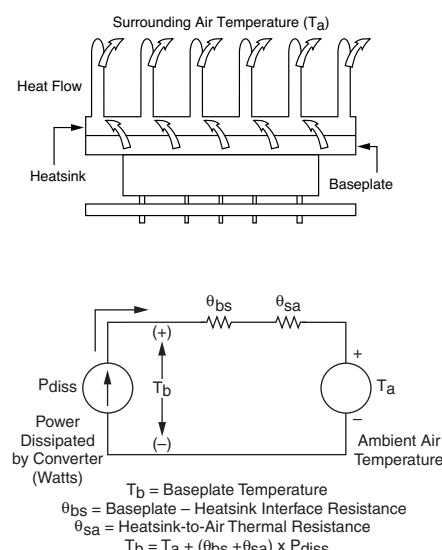

Figure 20-4 — Heat sink thermal considerations
The convection cooling model is shown in Figure 20-4. Baseplate temperature depends on the temperature of the air, total dissipated power and the values of two thermal resistances; the thermal resistance of the surface interface between the baseplate and the heat sink, and the heat sink-to-air thermal resistance. Surface interface resistance can be minimized as discussed under Conduction. The heat sink-to-air resistance is dependent on a variety of factors including heat sink material and geometry, air temperature, air density and air flow rate. Fortunately, thermal resistance data is available for a very wide range of standard heat sinks for use in both free and forced convection applications. The following sections will provide guidelines for both free and forced convection cooling of Vicor converters and configurables.
- Referencing Figure 20-4, we can derive the following formula for heat sink-to-air thermal resistance: